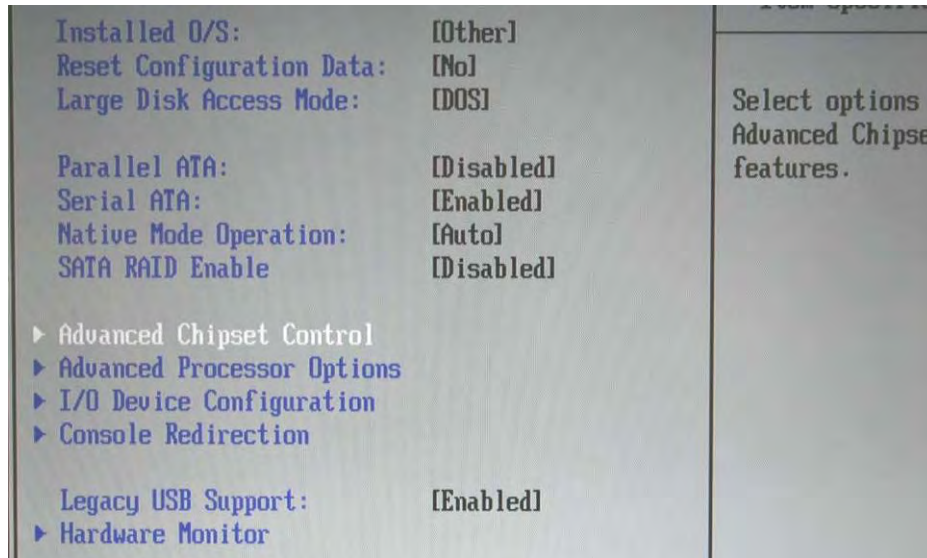

Figure 1-103. Advanced Options
6. Highlight **Advanced Chipset Control** and press **Enter** (Figure 1-103).